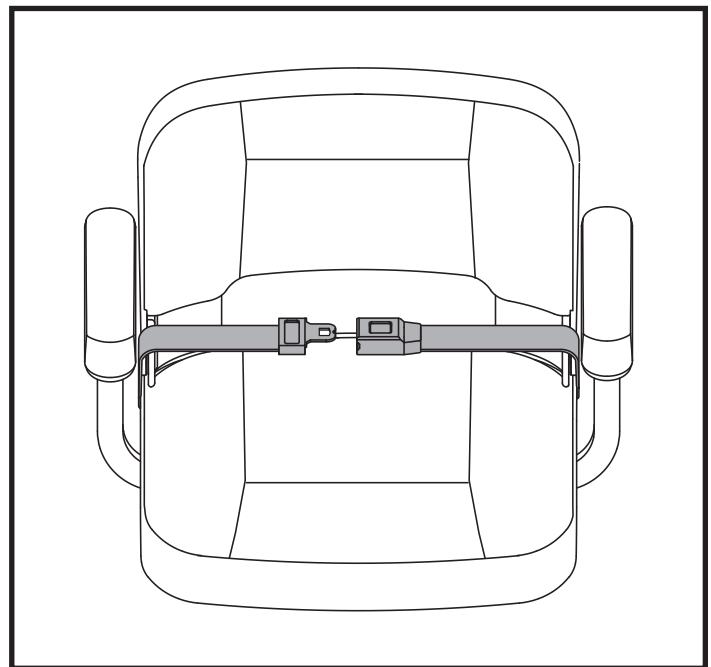

Figure 23. Positioning Belt - Metal Tab Style
1. Insert the metal tab on the right side of the belt into the plastic housing on the opposite strap until you hear a “click.” See figure 23.